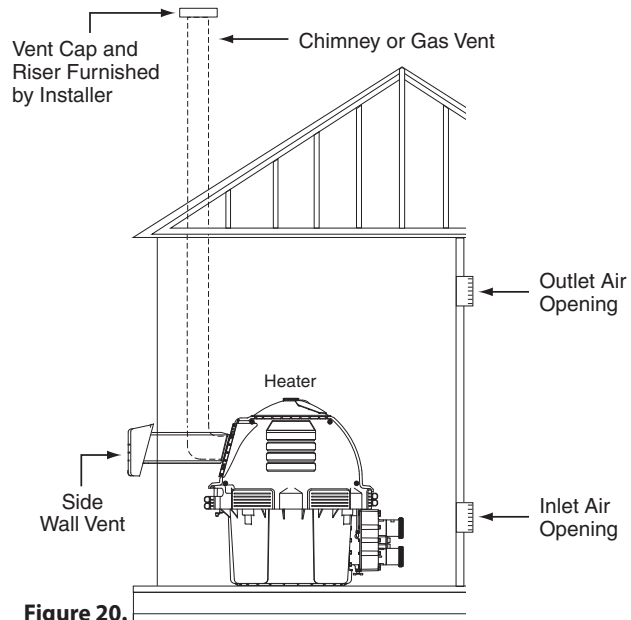

Figure 20.
HORIZONTAL OR VERTICAL VENTING - POSITIVE PRESSURE (See Figures 20, 21, and 22)
- Vent Termination – Vertical (See Figures 20 and 21),** for height of vent termination above the roof. Use an "Approved" vent terminal specified by local and national codes and your manufacturer's instructions. A roof termination must be vertical. In Canada, the Vent Cap location shall have a minimum clearance of 4 feet (1.2M) horizontally from electric meters, gas meters, regulators, and relief openings.
In any utility room or residential garage installation, install the heater with the base at least 18 inches (.5M) above the floor, see Figure 20. In a garage, install a rail or wall to protect the heater from physical damage by a moving vehicle.